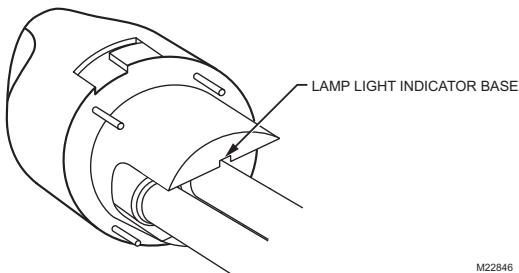

Fig. 7. Wipe lamp light indicator base.
5. Also wipe away any dust that may have collected between the lamp light indicator base and the black bulb base. See Fig. 7.